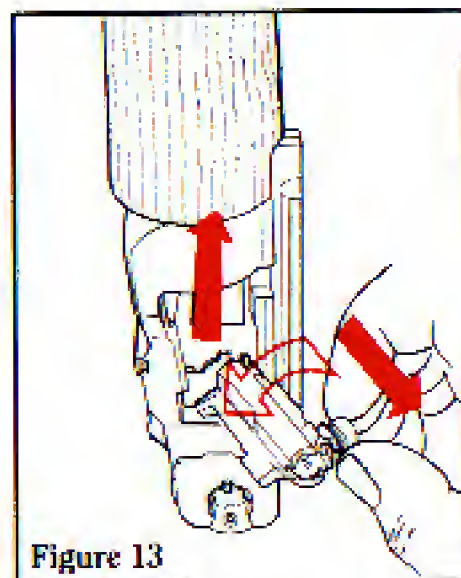

Figure 13
8. Pull the bolt forward until it can be pivoted out of receiver. Align firing pin projection with slot in lower receiver bridge and remove bolt from receiver (See Fig. 13).